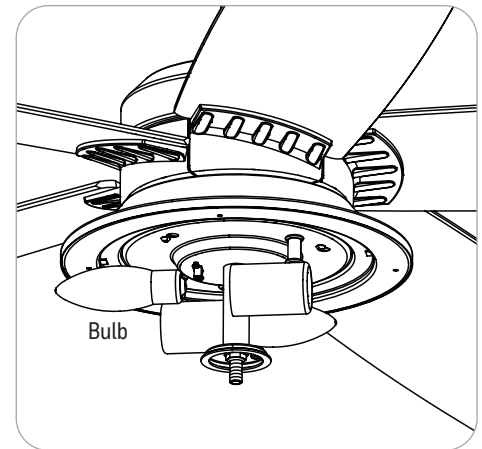

Figure 5.9
9. Install the E26-base LED bulbs into the sockets of the light kit. **Important:** Make sure you allow the bulbs and light kit to cool before you replace the bulbs (Figure 5.9).